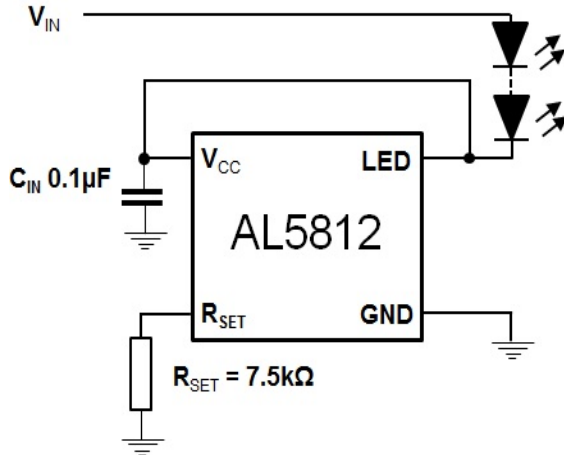
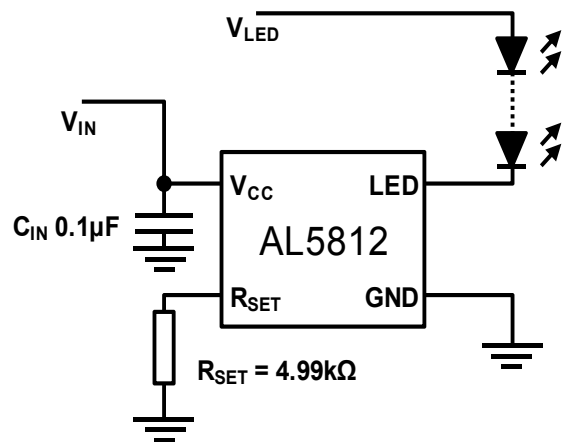
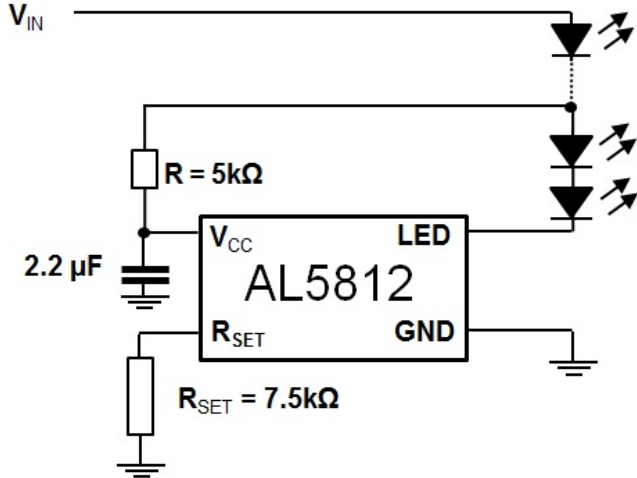
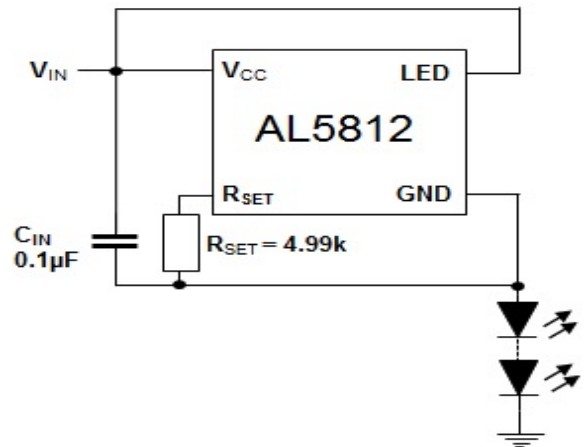

Figure 13 Low Side Current LED Setting
Figure 14 Low Side Drive – Separate Supplies
Figure 15 Low Side LED String Tapping
Figure 16 High Side Current LED String
- 13. The AL5812 has its V_{CC} pin connected to its LED pin, which are connected to the positive input supply voltage. R_{SET} is connected to AL5812 GND pin, which is connected to the anode of the LED chain. This creates a high side driver of the LED chain. See Figure 15.
The AL5812 is a Linear LED driver and in normal operation has the LEDs connected to the same potential as its V_{CC} pin and regulates the LED current by sinking current into its LED pin see Figure 13.
The AL5812 with its 60V capability on its supply pin, V_{CC} , and its LED drive pin allows it to operate from supply rails up to 60V and/or directly drive LED chains up to 60V as shown in Figures 13 and 14. The voltage applied to the V_{CC} pin can be greater or lower than the voltage applied to the LED string. Figure 14 shows where you might control it from a 5-V rail but power the rails from a 12V rail.
An extension of Figure 14 is to derive the power for the AL5812 from the LED chain itself see Figure 15. LED chains greater than 60V can be driven in this manner as long as PWM dimming is not utilized.
Figure 15 shows the use of RC delay to match the power time delay between V_{cc} and LED pin. The AL5812 can also be used on the high side of the LEDs, see Figure 16. This is a simple way of extending the maximum LED chain voltage, however, it does increase the minimum system input voltage to: